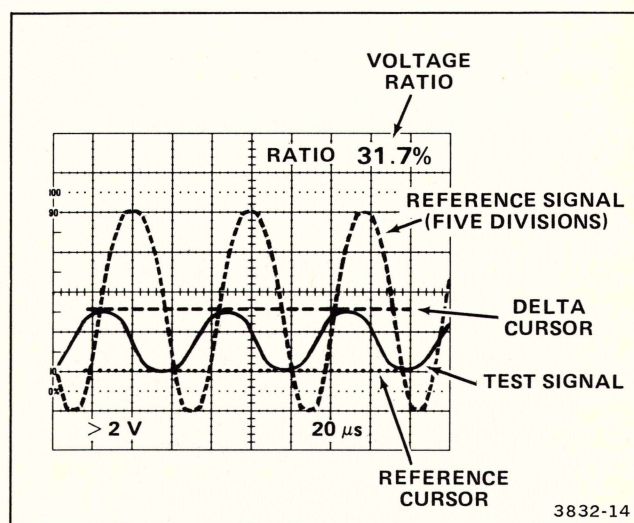

Figure 6-2. Voltage ratios.
8. Align the Reference cursor with the bottom of the test-signal waveform and the Delta cursor with the top of the waveform (see Figure 6-2).